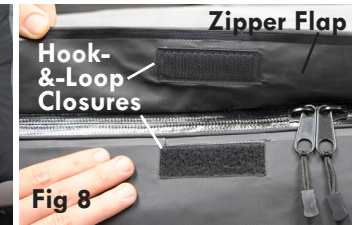

Fig 8
3-Close the Carrier by bringing the (2) zipper pulls together (Fig 8).
4-Fold the zipper flap down to secure the hook-&-loop closures (Fig 8). Make sure the hook-&-loop closures on the zipper flap completely overlap those on the carrier. If it is difficult to secure the closures, the carrier is over packed.